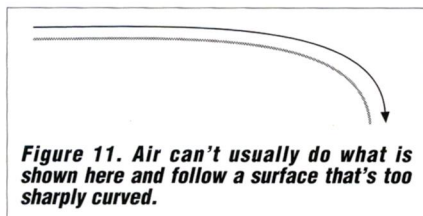

Figure 11. Air can't usually do what is shown here and follow a surface that's too sharply curved.
• **Some refinements.** There's a lot more the Coanda effect can help us to see. It should come as no surprise to anybody who rides a bicycle or drives a car that it is harder to turn a sharp corner than to go around a gentle bend. The same is true of air (see Figure 11).